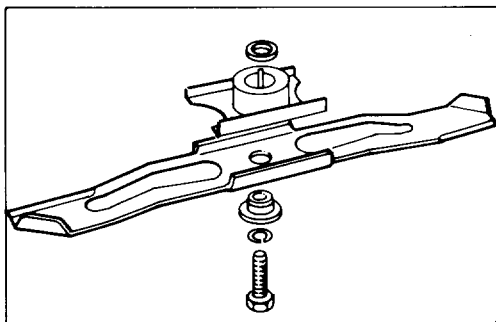

Figure 14
4. REMOVING BLADE—Grasp end of blade, not the plastic fan that can break, using a rag or thickly padded glove. Remove blade bolt, lockwasher, spacer, and blade (Fig. 14).